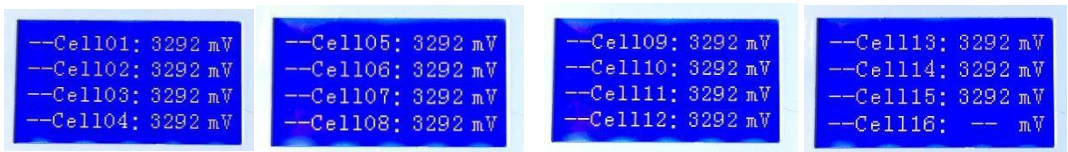

Figure 4
4.1.4 “Cell Voltage” means Voltage of each string. Figure 4 shows.